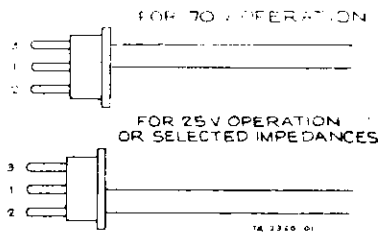

Figure 4—Speaker Output Plug Wiring
For frequently moved installations, connect the speaker to the speaker sockets on the rear panel. Two quick-disconnect plugs (Bogen Part No. 85-0147-01) are furnished with the amplifier to make connections to these sockets. Wiring of the speaker output plug is shown in figure 4.
When the speaker socket is used, connect the wired plug to either socket. Attach the impedance selector lead to the output terminal which corresponds to the speaker system impedance. For 70-volt operation, it is only necessary to connect the wired plug to either quick-disconnect speaker socket, leaving the impedance selector disconnected. Note that the arrangement in figure 4 is for unbalanced speaker lines, with the link between COM and GND closed. For balanced lines, open the link between COM and GND.
4. For MIC 1 conversion connect jumper between pins 7 and 10. For MIC 2 conversion, connect jumper between pins 8 and 11. See note 3 on the schematic diagram, figure 4.